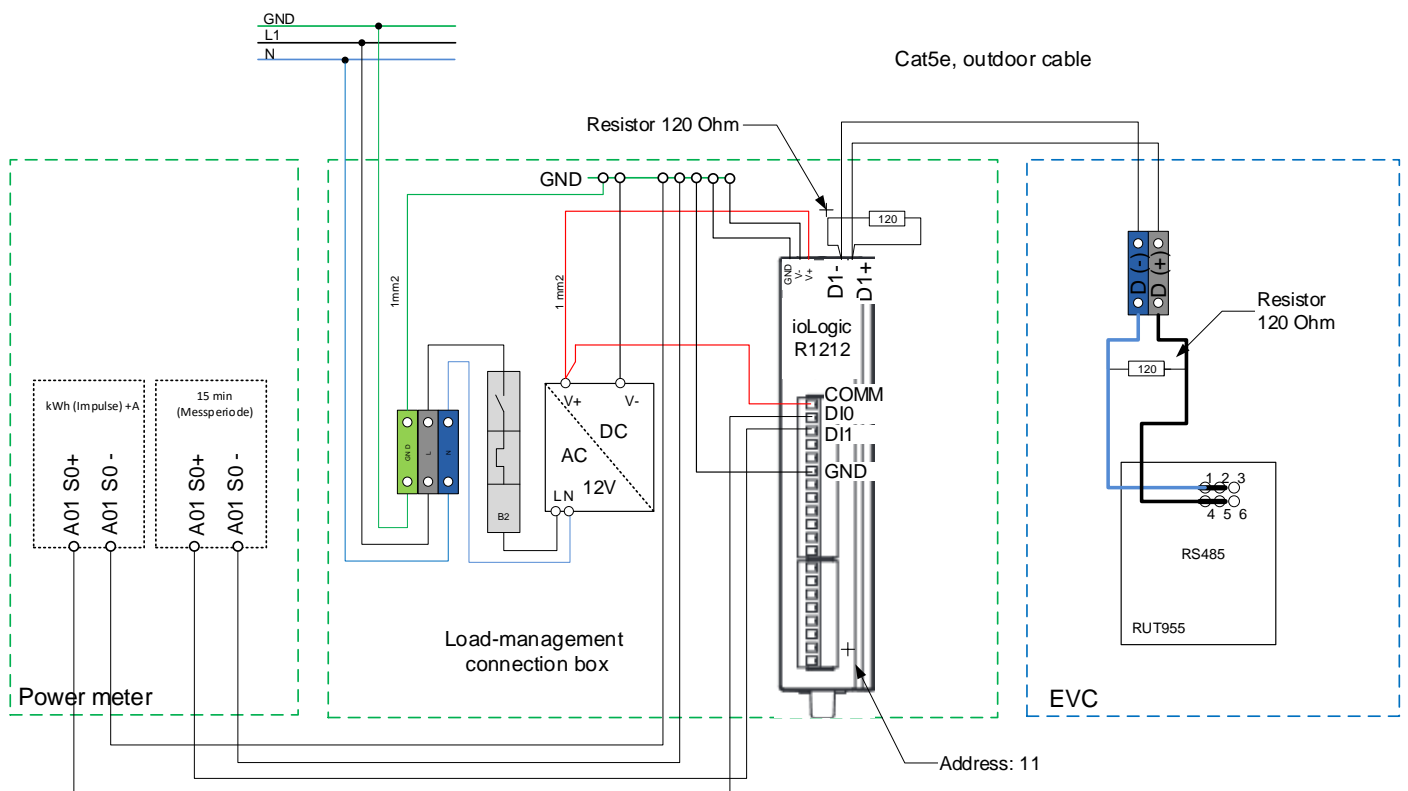

Figure 15 Load-management connection box – connection diagram
Step 14 Connect data+ cable to grey terminal D(+) (RS485 port – pin4,5) and data- cable to blue terminal D(-) (port RS485 – pin1,2) of RUT955 device (refer to Figure 15, Figure 17).